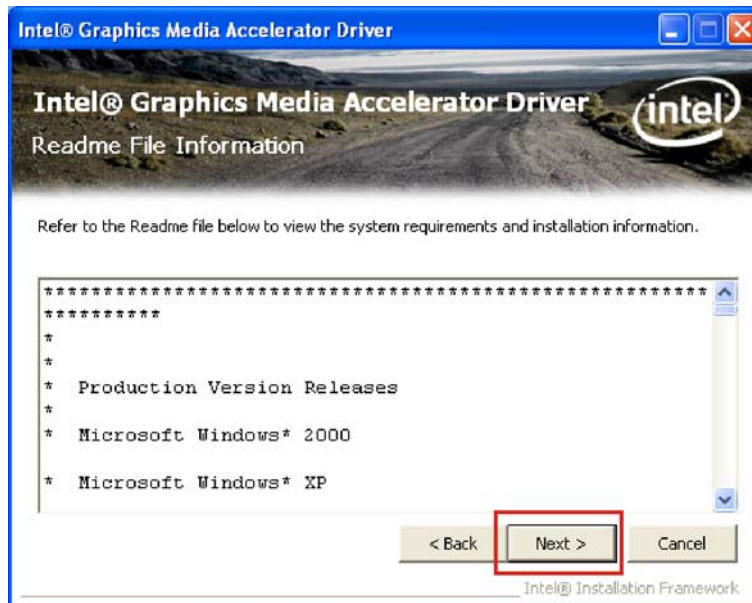

Figure 6-13: VGA Driver Read Me File
Step 11: The Readme file in **Figure 6-13** appears.